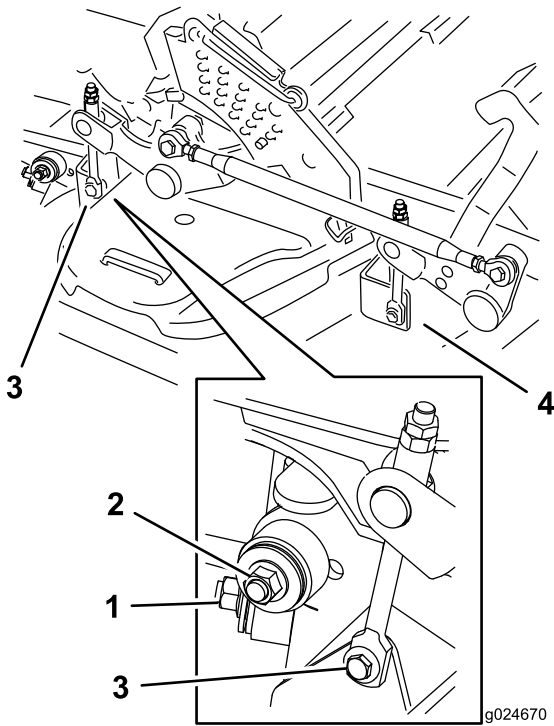

Figure 96
7. Remove and retain the hardware on both sides of the deck as shown in Figure 96.